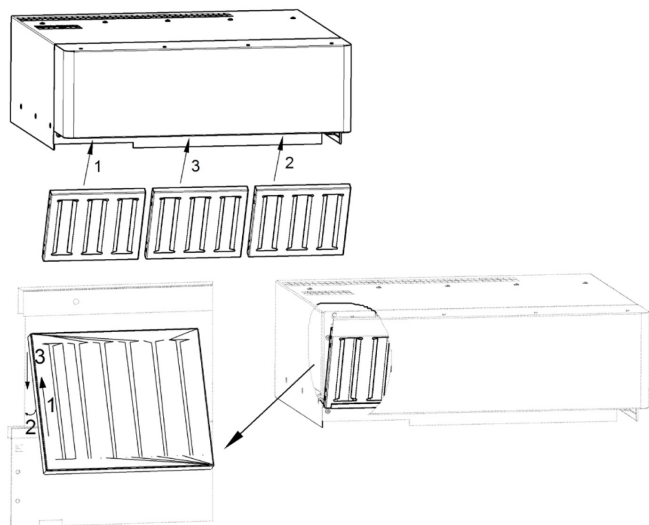

Figure 5: Grease filters in a 623 hood
- The procedure for installing filters to a 623 hood is the same as the one described above (see fig. 5)